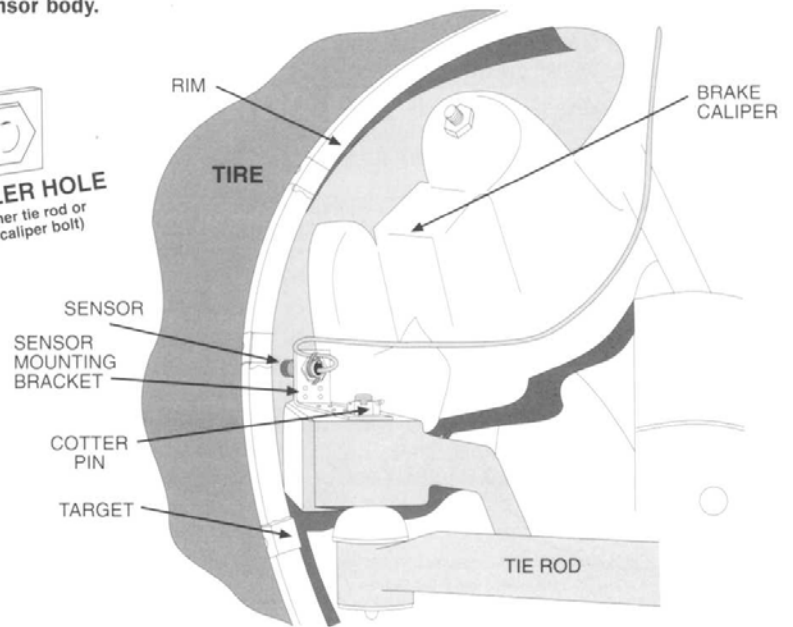

**FIGURE 3a**
**STEP 3** - Mount the sensor on the bracket near one end **FIGURE 3a** and **FIGURE 3b**. The other end will be bolted to the tie rod end using the original nut (a new cotter pin is provided). The distance from the tie rod end to the wheel differs from one vehicle to another. You may have to bend the bracket or cut some off. **NOTE:** On the cable end of the sensor is an LED light - this side of the sensor should face forward for easy viewing when aligning or checking proper operation. If the wheel has been removed, remount the wheel and be sure the face of the sensor is scanning 1/8 inch away from each target.